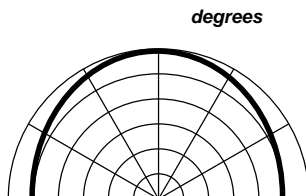

Figure 1 – Diagram of sounder orientation at horizontal surface
2.3 Sound pressure level at (1±0,05) m distance at 24 V is not less than 100 dB. Diagrams of sounder orientation and pressure weakening depending on distance are brought at Figures 1 and 2.